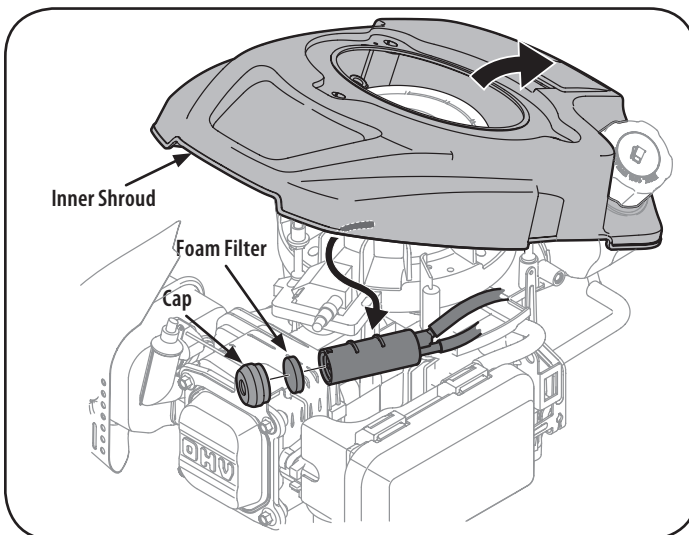

Figure 20
3. Lift up inner engine shroud and carefully pull out carbon canister filter assembly from under shroud as shown in Figure 20.
4. Remove cap from end of canister and pull out round foam filter from inside the assembly. See Figure 20. Clean element or replace when damaged.